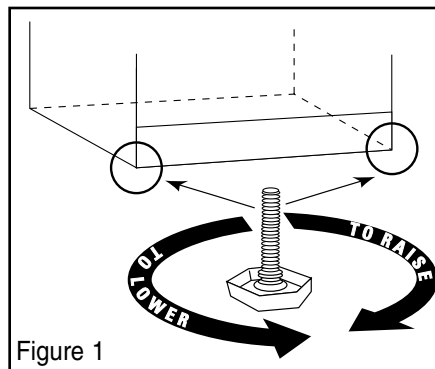

Figure 1
- All refrigerator models have leveling screws at the base of the cabinet beneath each front corner. Levelers can be adjusted by turning in or out as required. If the floor is not level and it is necessary to raise the rear of the cabinet, use a piece of plywood or other shim material. To lock the cabinet into place, turn down both leveling screws. (See figure 1.)